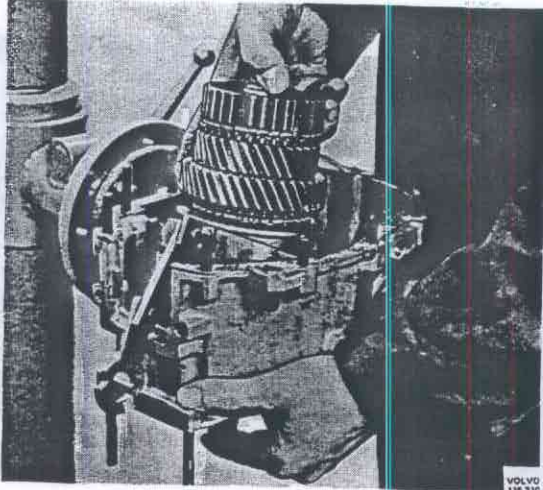

Fig. 43-64. Removing output shaft
24. Remove the output shaft and the selector fork for the reverse shaft, Fig. 43-64.